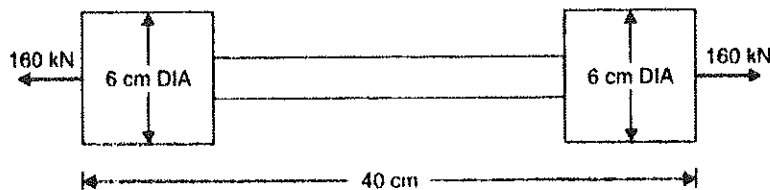

Figure Q1
- (b) The bar shown in Fig. Q1 is subjected to a tensile load of 160 kN. If the stress in the middle portion is limited to  $150 \text{ N/mm}^2$ , determine the diameter of the middle portion. Find also the length of the middle portion if the total elongation of the bar is to be 0.2 mm. Young's modulus is given as equal to  $2.1 \times 10^5 \text{ N/mm}^2$ .